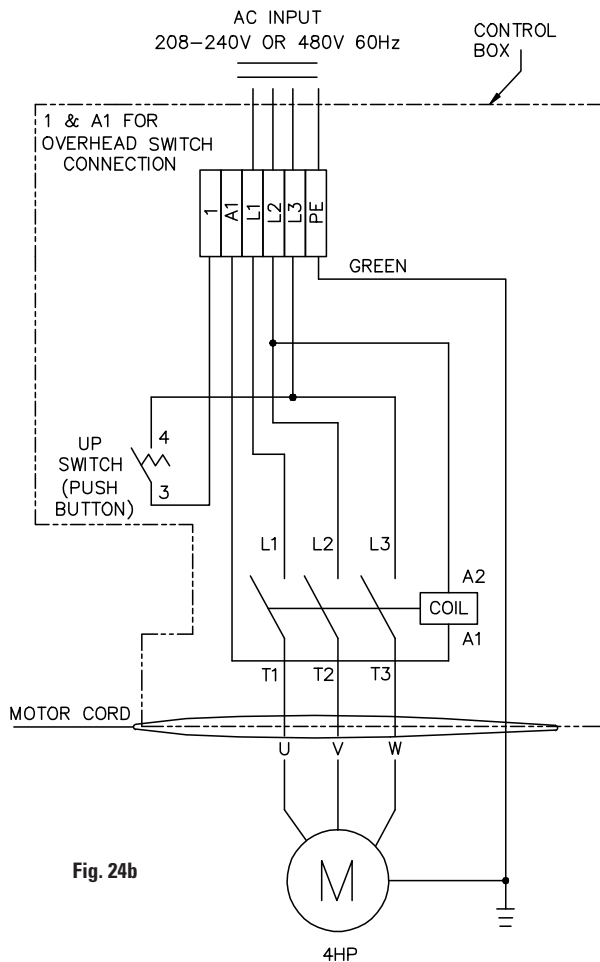

Fig. 24b
16. Electrical: Have a certified electrician run appropriate power supply to motor, Fig. 23, Fig. 24, and Fig. 24b. Size wire for 20 amp circuit. See Motor Operating Data Table.
IMPORTANT Use separate circuit for each power unit. Protect each circuit with time delay fuse or circuit breaker. For single phase 208-230V, use 20 amp fuse. Three phase 208-240V, use 15 amp fuse. For three phase 400V and above, use 10 amp fuse. For wiring see Fig. 23, Fig. 24, and Fig. 24b. All wiring must comply with NEC and all electrical codes.